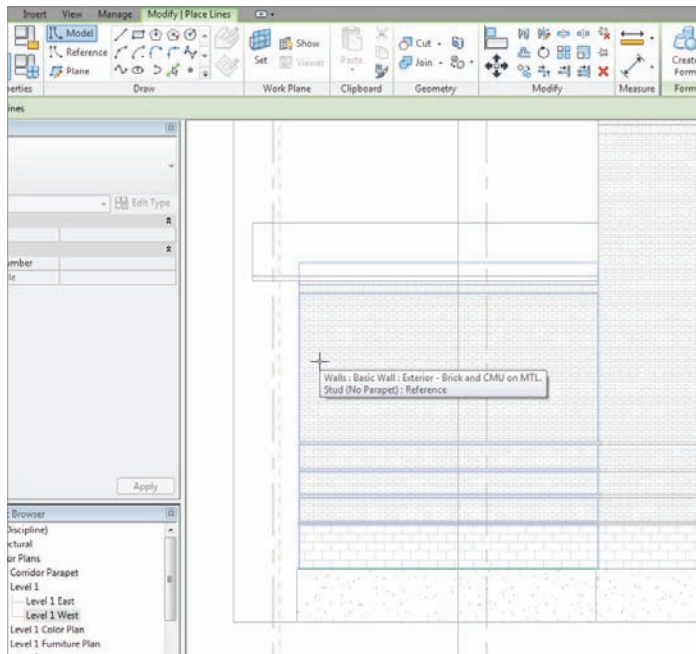

FIGURE 16.42 Setting the vertical work plane
1. In the Draw panel, click the Model line button (see Figure 16.42).
2. In the Work Plane dialog, select Pick A Plane, click OK, and select the wall as shown in Figure 16.42.